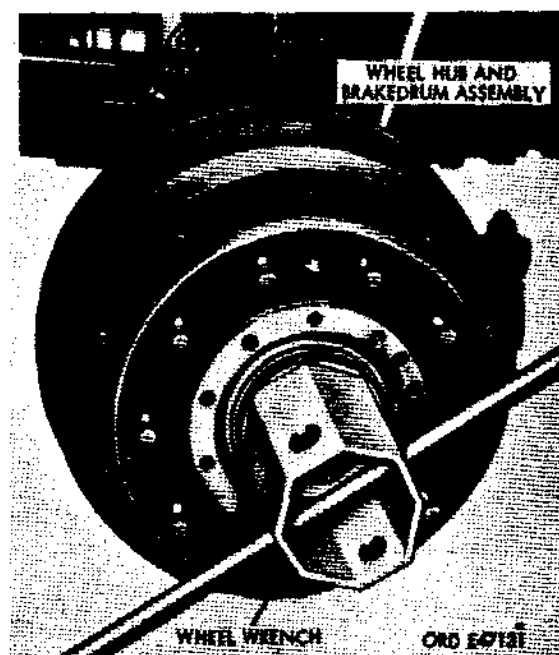

Figure 341. Removing wheel bearing locknut
- (2) Remove wheel hub and brakedrum assembly. Remove wheel bearing locknut with a wheel wrench (fig. 341). Lift